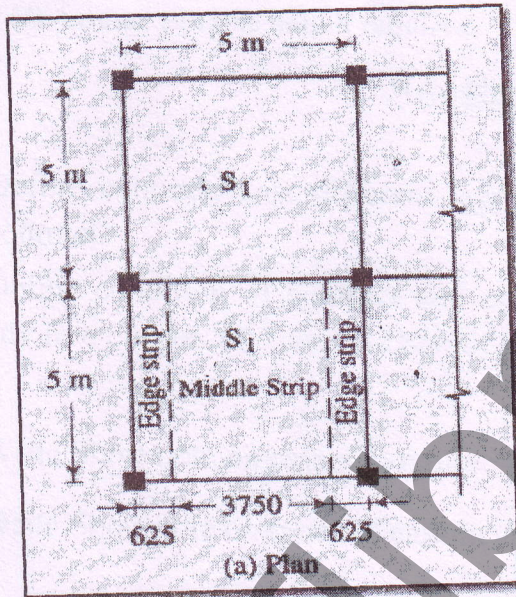
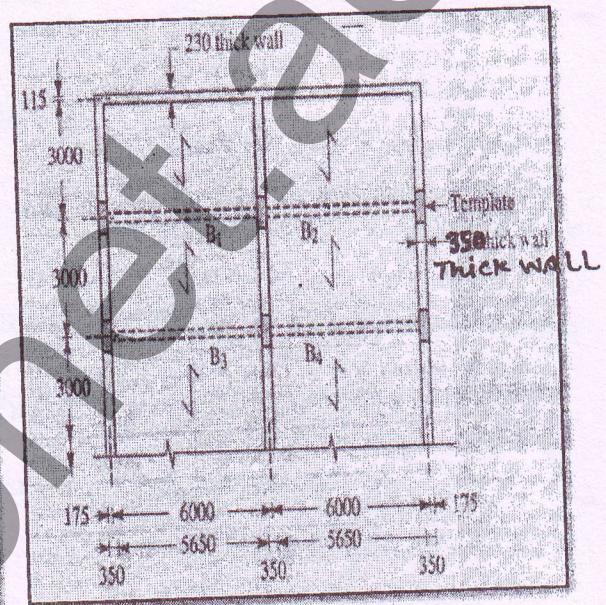

Figure 1/ Que 1(B)
Figure 2 / Que 2(B) OR
**GANPAT UNIVERSITY****B. TECH. SEMESTER VIIth CIVIL ENGINEERING****REGULAR EXAMINATION – NOV/ DEC- 2012****C-701:DESIGN OF CONCRETE STRUCTURE****Max.Time: 3 Hours****Max. Marks: 70****Instructions:** - (1) Answer to the two sections must be written in **separate** answer books.(2) Figures to the right indicate **full** marks.
(3) Assume suitable data if required.
(4) IS-456-2000 is permitted.
**Section - I****Q.1 (A)** What is a redistribution of moment? (3)**(B)** A part plan of a banking hall is shown in figure1. The slab of 120mm is restrained with edge beams. Using M20 grade concrete and HYSD reinforcement of grade Fe415, design slab  $S_1$ . Take floor finish load  $1 \text{ KN/m}^2$  and live load  $3 \text{ KN/m}^2$ . Also check for shear and deflection. (9)**OR****Q.1 (A)** What is mat foundation? Where we should provide mat foundation. (3)**(B)** Two reinforced concrete columns  $700 \text{ mm} \times 700 \text{ mm}$  (c1) and  $650 \text{ mm} \times 650 \text{ mm}$  (c2) in size carry axial loads of  $1300 \text{ kN}$  and  $1200 \text{ kN}$  respectively. These columns are placed  $4.4 \text{ m}$  apart c/c. The safe bearing capacity of soil is  $205 \text{ kN/m}^2$ . Use M20 grade of concrete and Fe 415 grade of steel. Design the combined rectangular footing for
3) Find out reinforcement of footing. (9)**Q.2 (A)** What is an interaction diagram for column design? (3)**(B)** Determine the reinforcement required for a column which is restrained against sway with the following data: Size of column =  $350 \text{ mm} \times 300 \text{ mm}$ , concrete grade = M 25, Steel grade = Fe 415,  $l_{ex} = 6.5 \text{ m}$ ,  $l_{ey} = 4.5 \text{ m}$ , Unsupported length =  $7.0 \text{ m}$ , Factored load =  $1500 \text{ kN}$ , Factored moment in the direction of larger dimension  $40 \text{ kN.m}$  at top &  $22.5 \text{ kN.m}$ , Factored moment in the direction of shorter dimension  $30 \text{ kN.m}$  at top  $20 \text{ kN.m}$  at bottom. (8)**OR**
- Q.2 (A) What are the do's details required for general drawing of slab as per SP34?
(B) A part plan of an R.C.C. floor is shown in figure 2. Design the beams B3 and B4. Total load on slab is (4.5 + 3.5) KN/m2 (i.e., DL + LL). Assume that the beams are not monolithic with the supports. Assume 230 mm x 500 mm rib of the beam and slab thickness of 120 mm. The materials are M20 grade concrete and HYSD reinforcement of grade Fe 415.
- (A) Draw general detailing for beam and slab as per IS 13920-1993.